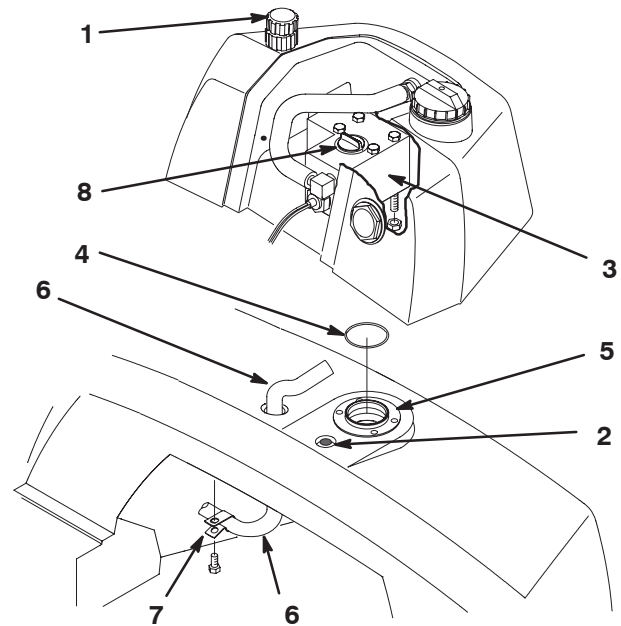

Figure 3
6. Install the breather and breather extension into the top of the auxiliary tank and the pipe plug into the top of the main hydraulic tank (Fig. 3).
9. Remove and discard 4 locknuts from the bottom of the manifold block (Fig. 3).
11. Route the wire harness through the access hole in the main tank and align the manifold block with the fill neck as shown in Figure 3.
14. Secure the leak detector harness to the underside of the auxiliary tank with the R-clamp and 6 mm capscrew as shown in Figure 3.
15. Remove the fill cap from the top of the manifold block (Fig. 3). Carefully fill the float cavity to within 1 in. (25 mm) of the top of the threads. Do not overfill. Replace and tighten the fill cap.